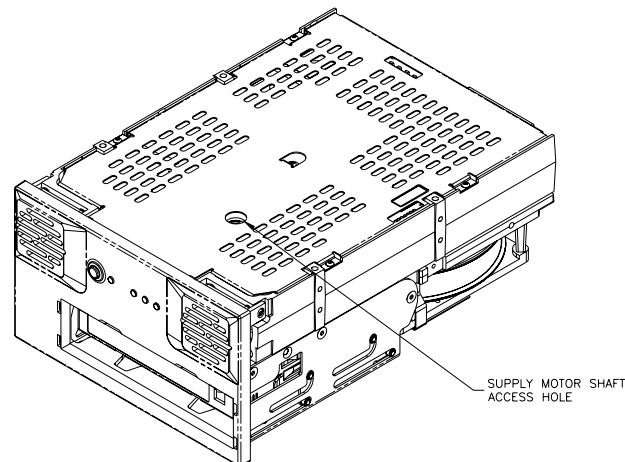

Figure 20. Diagram of underside of Viper 200 showing supply motor access hole
4. Insert the 1.5-mm hex wrench through the hole in the bottom plate shown in Figure 20. Turn the hex wrench clockwise slowly and smoothly to rewind the tape into the cartridge. This may take some time.